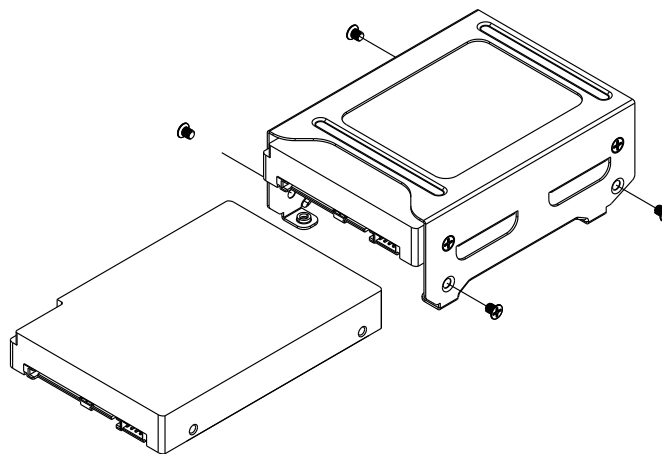

Figure 3-3. Installing 2.5" Hard Drives into the Bracket
2. Secure the drive(s) into the optional bracket as shown in Figure 3-3.